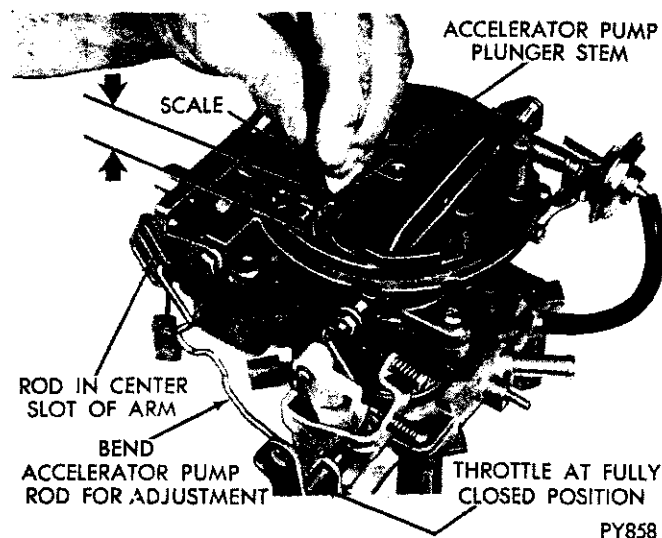

Fig. 24—Accelerator Pump Adjustment
(2) Close throttle valves tightly. Measure the distance between top of air horn and end of plunger shaft, (Fig. 24). This measurement should be 9/16 inch.
(3) To adjust pump travel, bend pump operating rod, using Tool T109-213, at loop of rod, until correct setting has been obtained.